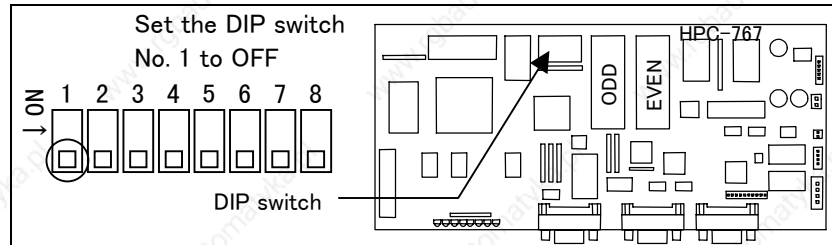

Fig. 20.3 Location of the DIP Switch of System Configuration
- (1) Set the DIP switch 1 (in Fig. 20.3) to OFF and turn ON the power. This brings the condition ready for configuring the system.